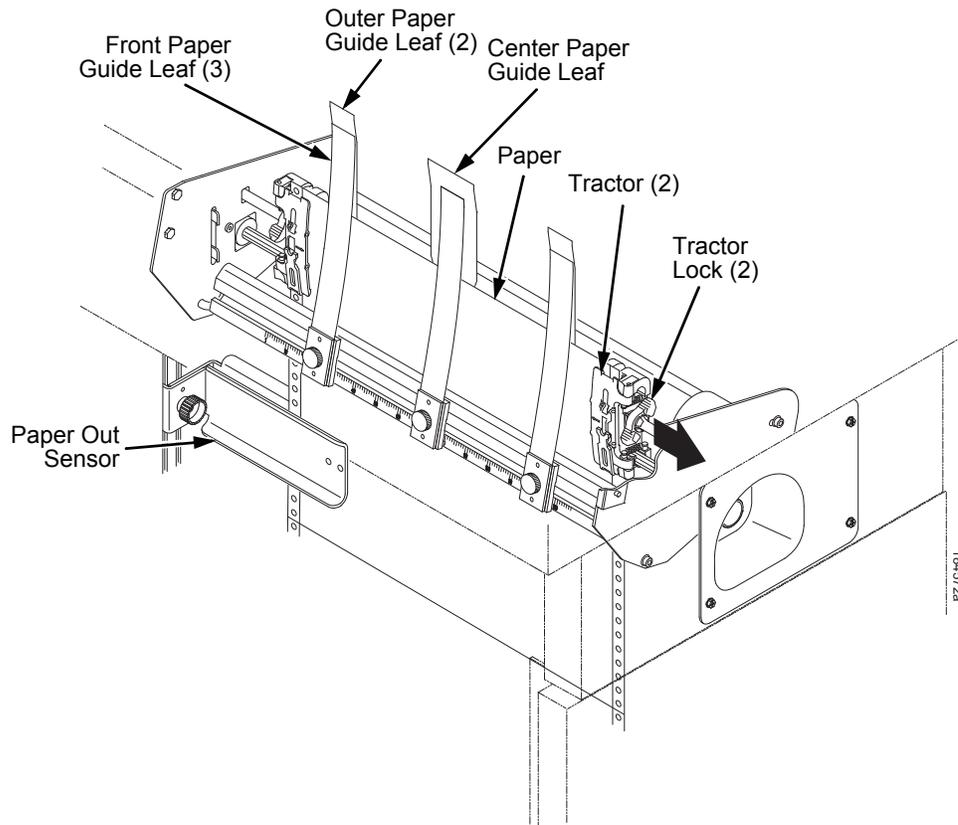
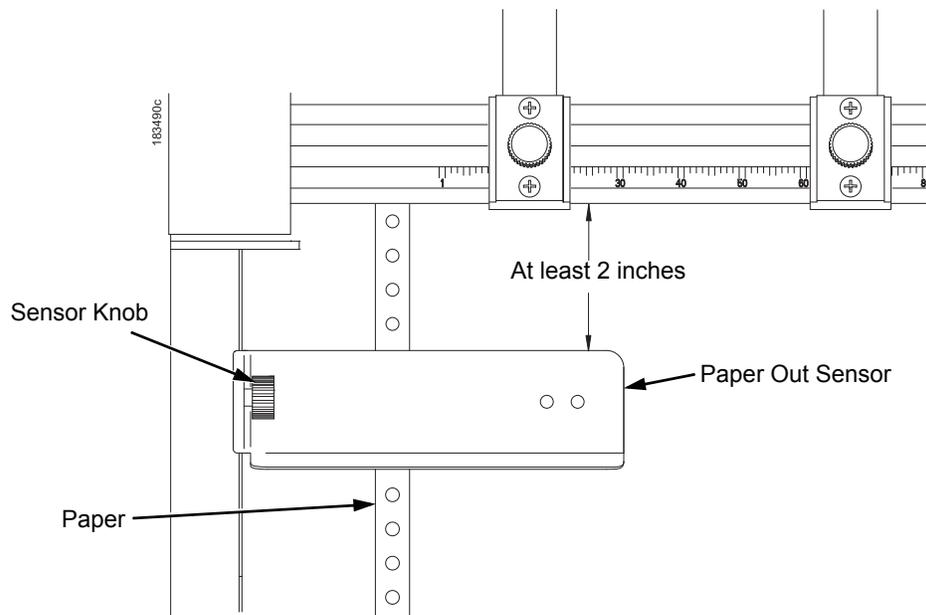

Figure 2. Adjusting the Horizontal Paper Tension
Figure 4. The Paper Out Sensor
3. Unlock and open the tractor doors and slide the paper from below, through the black paper out sensor slot on the left side, and up between all front and rear paper guide leaves. (See Figure 2.)
6. Adjust the paper web tightness by sliding the right tractor to remove slack or to adjust for various paper widths. (See Figure 2.)
The paper out sensor indicates when the printer runs out of paper. (The sensor does not work with black backed forms.) Unlike the standard pedestal printer, the ZTP printer requires you to load the paper through the paper out sensor slot (Figure 2 and Figure 4). Correct positioning of the paper out sensor ensures that the last form the printer prints will be properly presented to the tear bar. To position the paper out sensor, do the following: